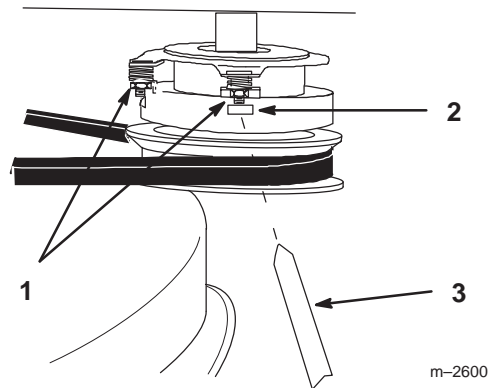

Figure 34
1. To adjust clutch, tighten or loosen lock nuts on flange studs (Fig. 34).
2. Check adjustment by inserting feeler gauge thru slots next to studs (Fig. 34).